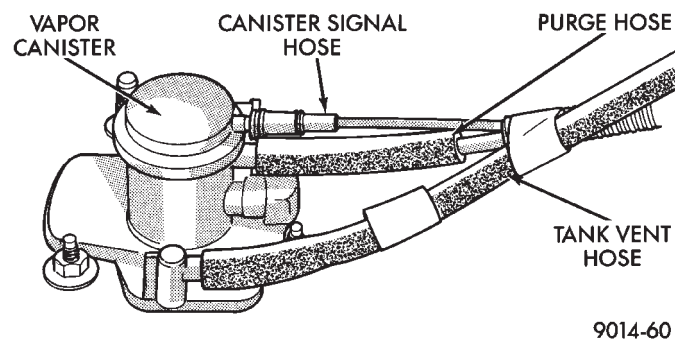

Fig. 5 Vapor Canister
(6) Verify hoses are securely attached to vapor canister (Fig. 5).